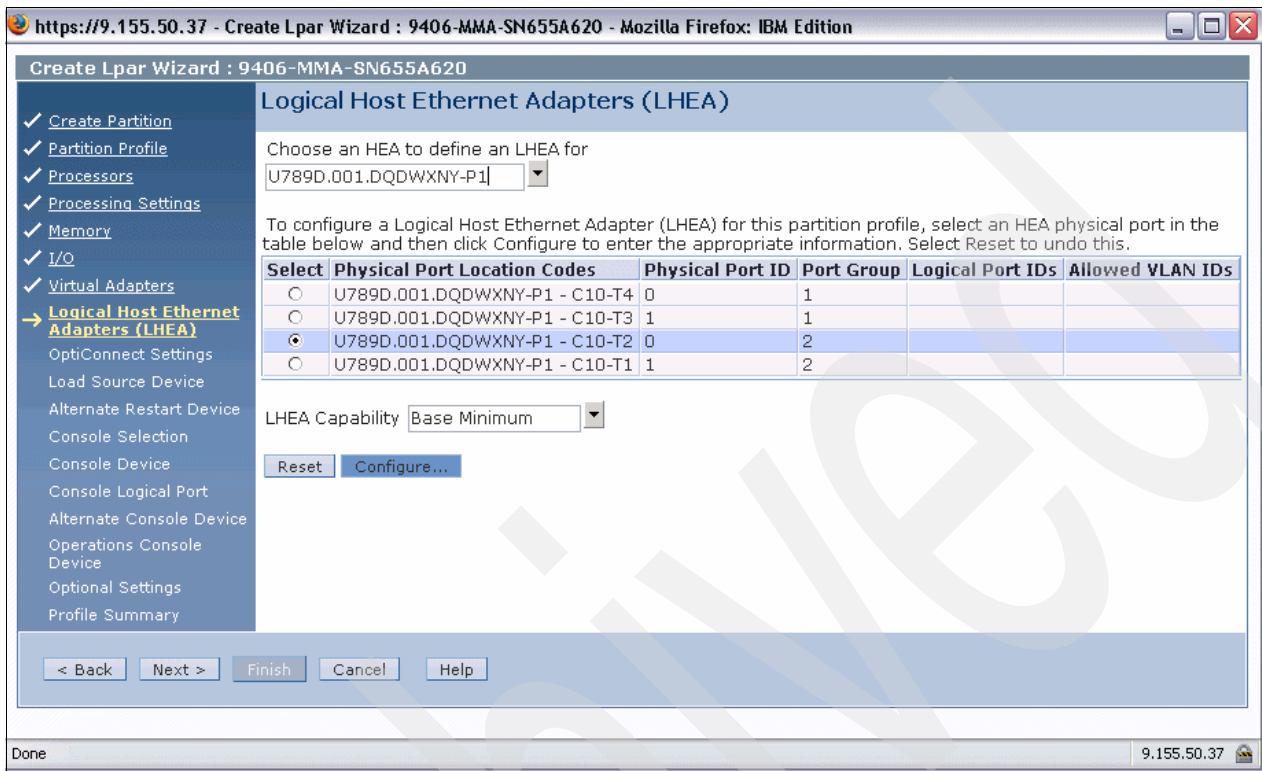

Figure 6-33 Logical Host Ethernet Adapters dialog
13. in the Logical Host Ethernet Adapters dialog shown in Figure 6-33 we select the CEC's HEA that we want to use from the drop-down list box, select the physical port, and choose **Configure** to proceed.